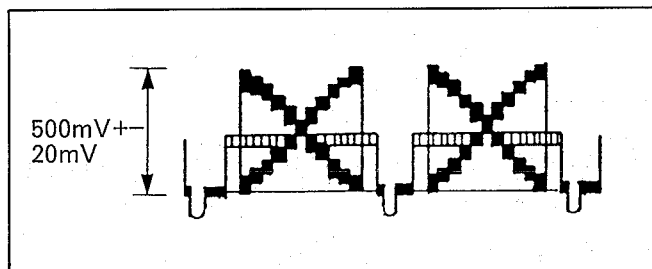

Fig. C28
6. Push "INC" or "DEC" key so that signal level at becomes $500mV \pm 20mV$ as shown in Fig.C28.